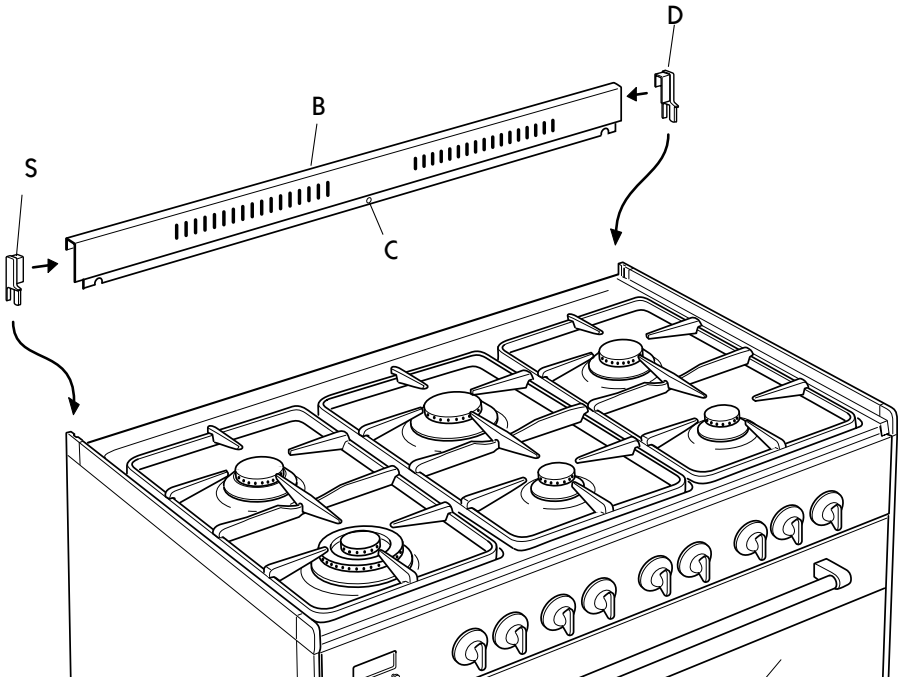

Fig. 1
1. Insert the side supports S and D into the backguard B (see fig. 1)